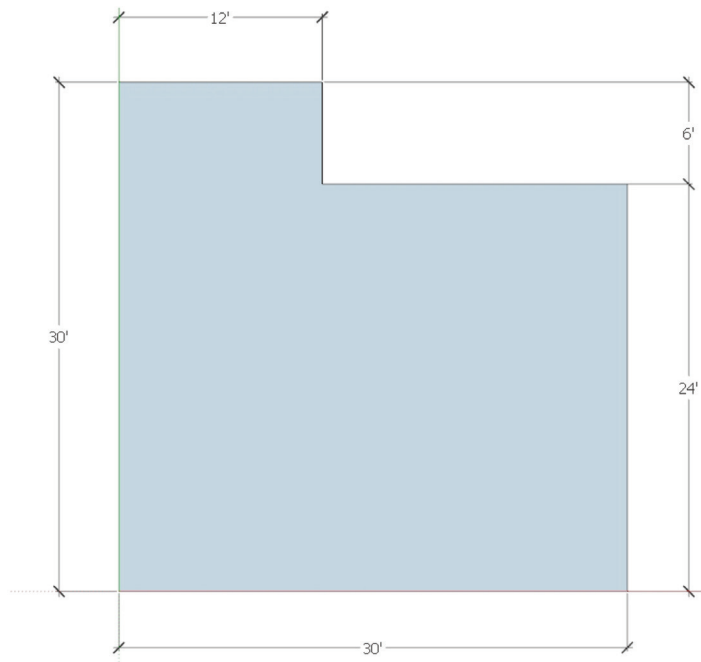

Figure 10.17 Face.
7. You should now have a closed face that looks like Figure 10.17.